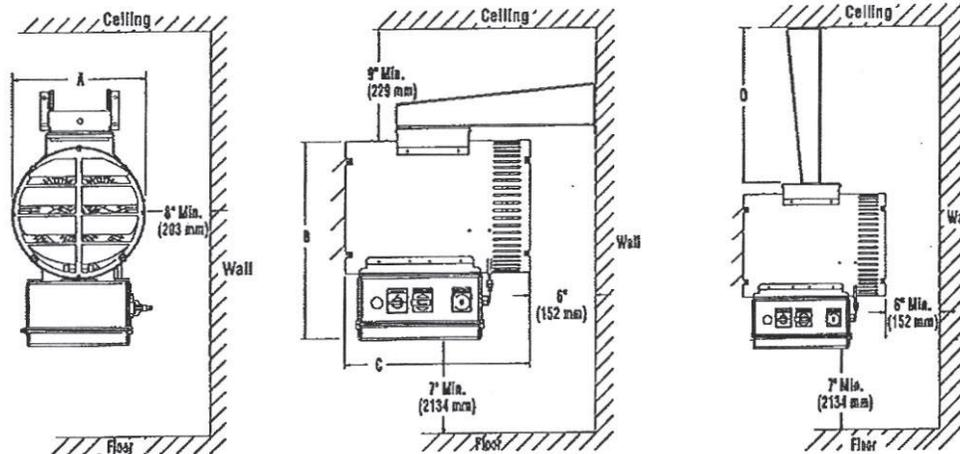

Figure 2
7. Keep at least 5' (1524 mm) clearance in front of the heater. Refer to Figure 2 for side, top and back clearance requirements.
- For ceiling heights of 12 feet (3658 mm) or less, maximum mounting height is determined by use of the mounting bracket offered for these heaters. Minimum spacing to ceiling is 9" (229 mm). (See Figure 2.)
- In either case the minimum mounting height is 7 feet (2134 mm) from floor to bottom of heater. (Figure 2)
- Spacing to adjacent walls (See Figure 2).